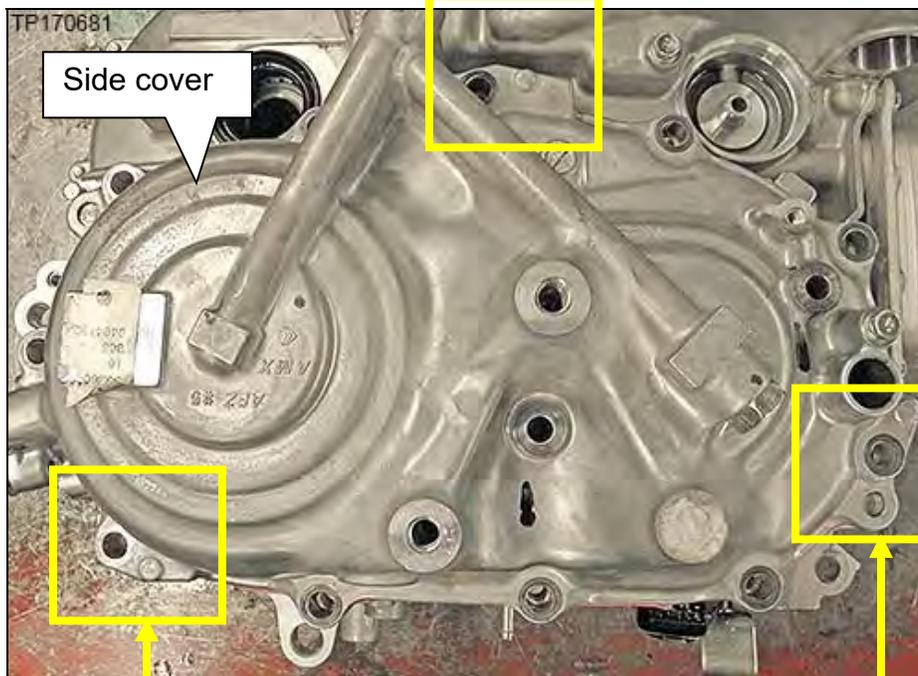

Figure 4J
- There are three slide hammer tool points shown in Figure 4J.